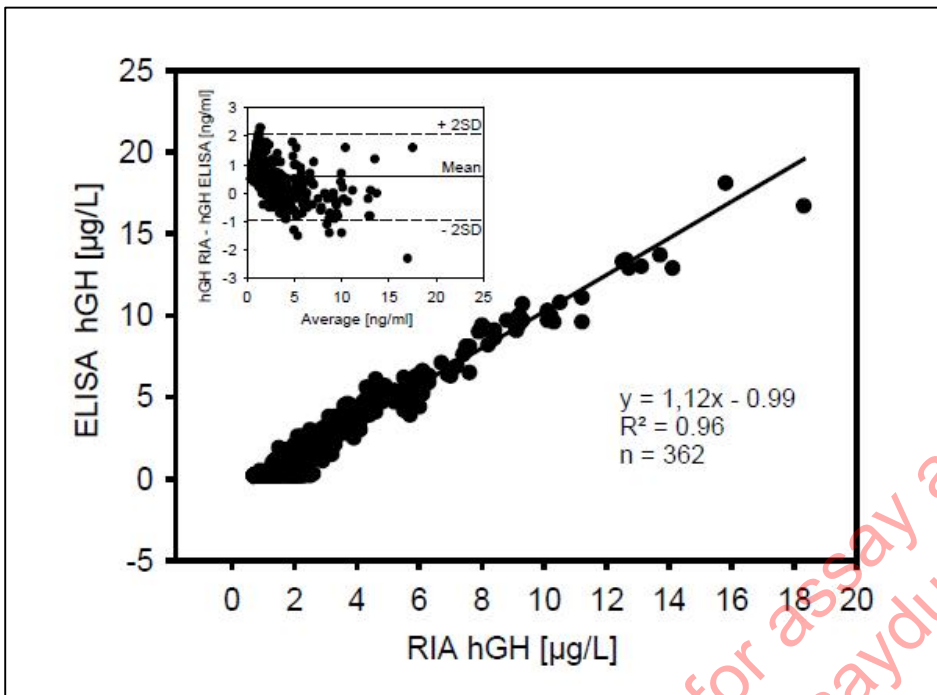

Figure 3: Assay Comparison
Langkamp et al Growth Horm IGF Res 18 (2008) 526-532 compared an in-house assay used for hGH measurements for years with the Mediagnost E022 (9). Results show a very good comparability and thus cut-off values established by the in house-assay can also be used with the Mediagnost E022 (see Figure 3).